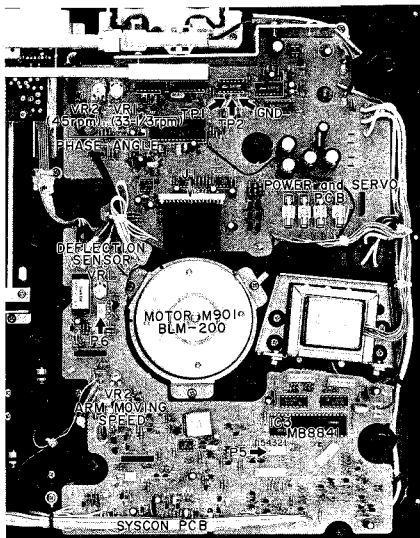

Fig. 22
### 3. ARM MOVING SPEED ADJUSTMENT (Refer to Figs. 22, 25)
- 4) Turn Syscon P.C Board VR1 (Fig. 22) counterclockwise all the way.